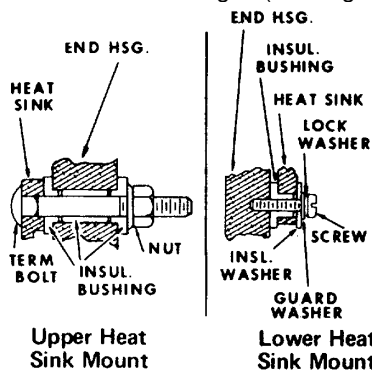

FIG. 8
- Remove two screws, lockwashers, guardwashers and insulating washers which retain lower end of heat sinks. Remove heat sinks. Note location of insulating washers and bushings. (See Figure 8.)
- Remove terminal stud insulating bushings from housing. There are three bushings in each terminal hole. (See Figure 8.)